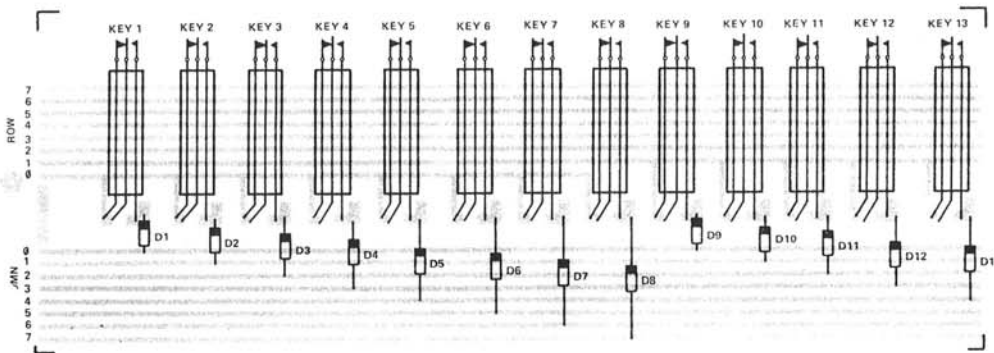

Fig.11 Keyboard component overlay.
Ensure that the keys are aligned properly. With the recommended type the top edge of the contact will line up with the top edge of the PCBs. After all keys have been glued allow the adhesive to set overnight. Then the connections can be soldered to the PCBs as shown in Fig. 11. The diodes are now soldered in place. D1 is connected between the track for Column 0 and the pad for key 1; D2 from the track for Column 2 to key 2 and so on until D8 which connects Column 7 track with key 8.